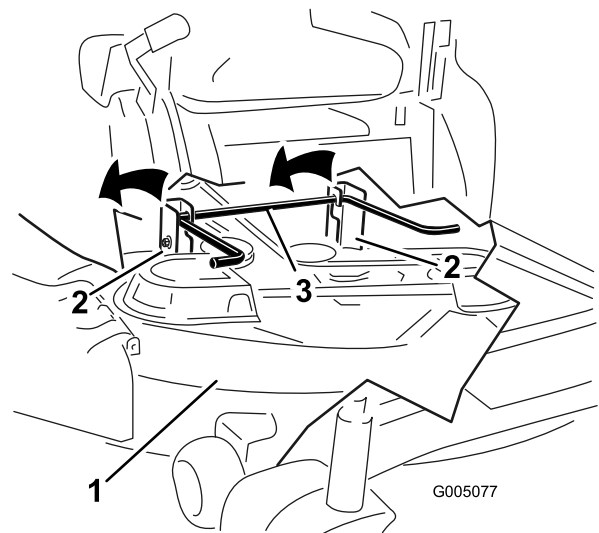
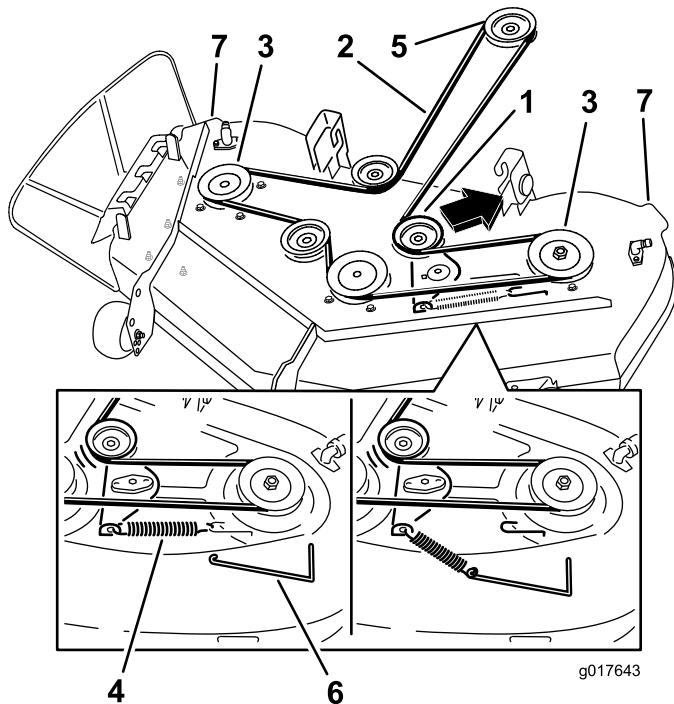

Figure 59
Figure 60
5. Using the mower deck handles, lift the mower deck and hanger brackets clear of the rear lift rod and lower the mower carefully to the ground (Figure 59 and Figure 60).
4. Using a spring removal tool, (Toro part no. 92-5771), remove the idler spring from the deck hook to remove tension on the idler pulley and roll the belt off of the pulleys (Figure 60).
5. Route the new belt around the engine pulley and mower pulleys (Figure 60).
6. Using a spring removal tool, (Toro part no. 92-5771), install the idler spring over the deck hook and placing tension on the idler pulley and mower belt (Figure 60).
5. Lift the rear of the mower deck and guide the hanger brackets over the rear lift rod (Figure 59).